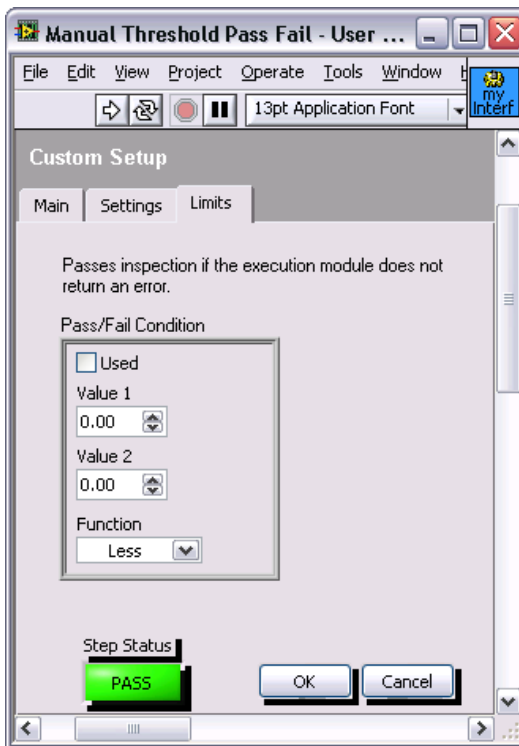

Figure 4-5. Adding Controls for Pass/Fail Analysis
6. Place the Pass/Fail Condition control on the Limits tab, as illustrated in Figure 4-5.